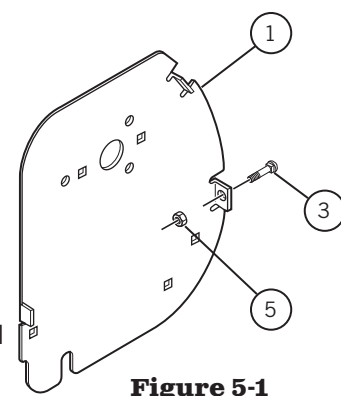
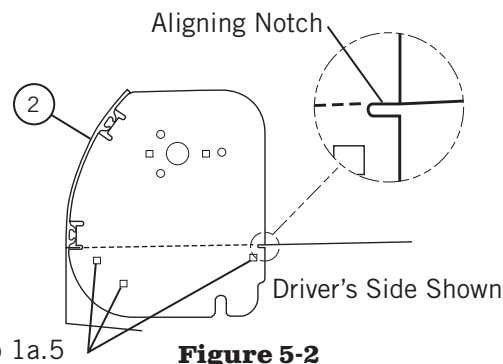

Figure 5-1
Figure 5-2
- Figure 5-1.** Install 3/8-16 x 1 carriage bolts (3) and 3/8-16 nylon hex nuts (5) in the driver's side and passenger's side mounting plates (1). Do not tighten.
- Slide end plates (1) into wind deflector's extrusion. Do not tighten.
- Carefully place assembly onto the cab shield or top rail and position at the farthest point forward. This will keep the air from coming in under the wind deflector (2) to a minimum.
- Figure 5-2.** Move the end plates inward until they are against the cab shield or top rail. Lift rear of assembly until the aligning notch is even with the top rail. Clamp driver's side end plate into place.
- Secure driver's side end plate with 3/8-16 x 1 hex bolt (4), 3/8 lock washer (6), and 3/8-16 nylon hex nut (5).
- Repeat **Steps 1a.5–1a.6** for passenger's side end plate (1).
- Tighten nuts on carriage bolts holding the wind deflector (2).